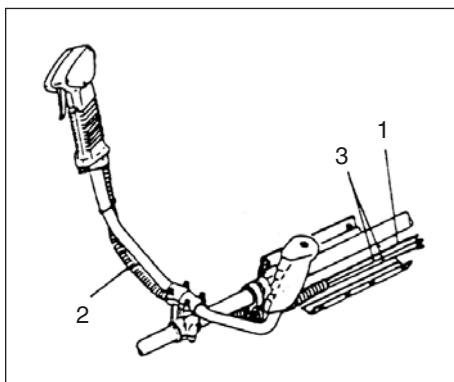

Fig. 1-3
Put stop cords(3) and throttle wire(1) through protection tube(2). Then unhook the hip pad and wrap the protected stop cords and throttle wire (1) with it (Fig.1-3)